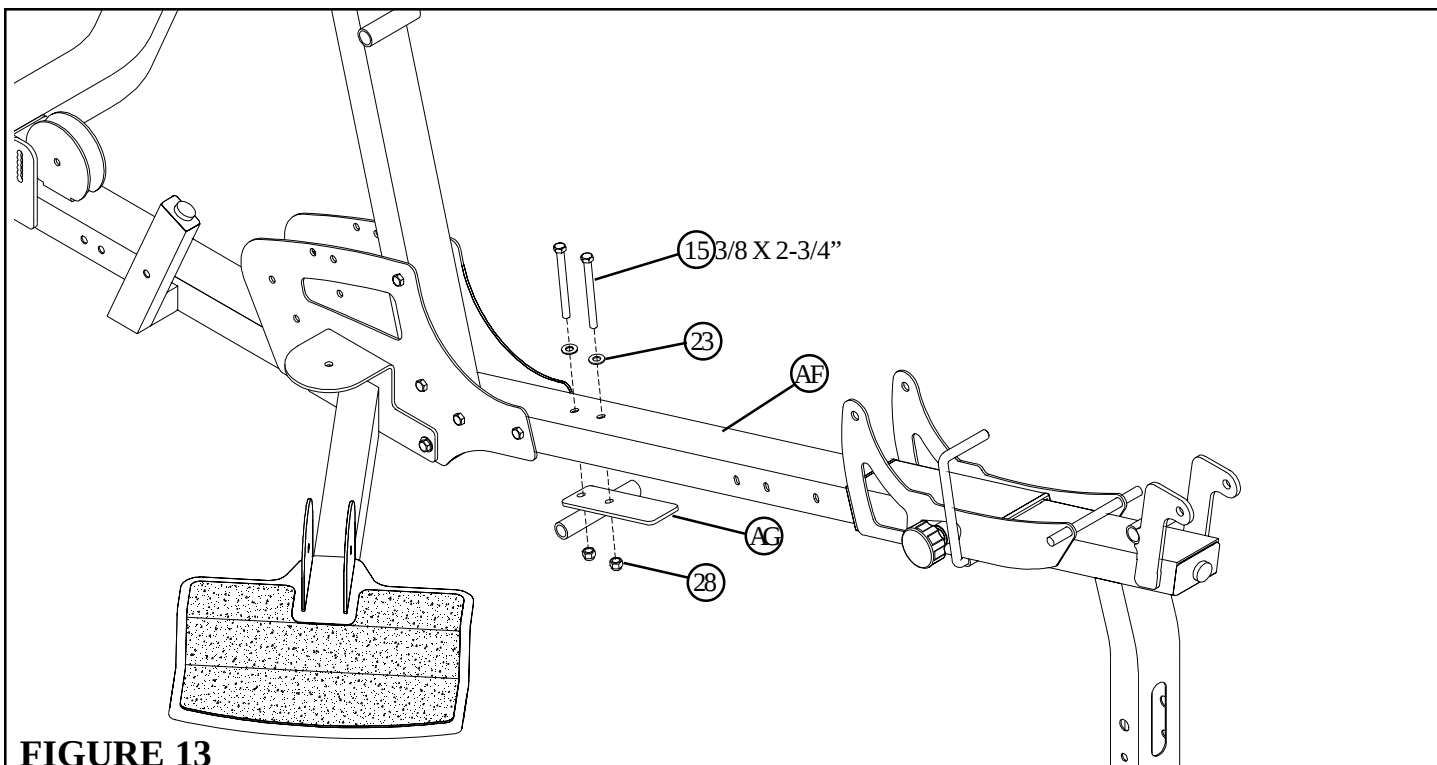

**FIGURE 12**
- **SECURELY** assemble the SEAT FRAME (AF) to the BASE PLATES (B) using two 3/8 X 3-3/4" BOLTS (11) and two 3/8" LOCK NUTS (28) as shown in FIGURE 12.